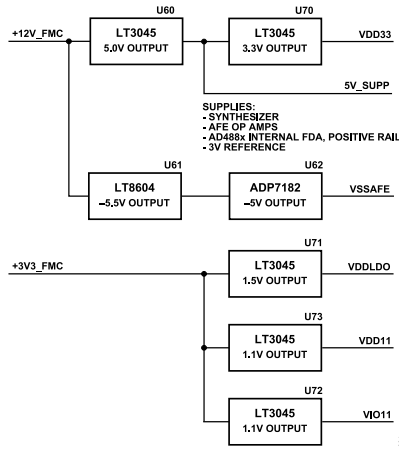

Figure 4. Evaluation Board Power Tree
- ▶ On-board generated rails (default): The rails are taken in from the LT3045 regulators (U72 and U73), as shown in Figure 4.
- ▶ On-board generated rail (default): The rail is supplied by an LT3045 LDO regulator (U71), as shown in Figure 4.